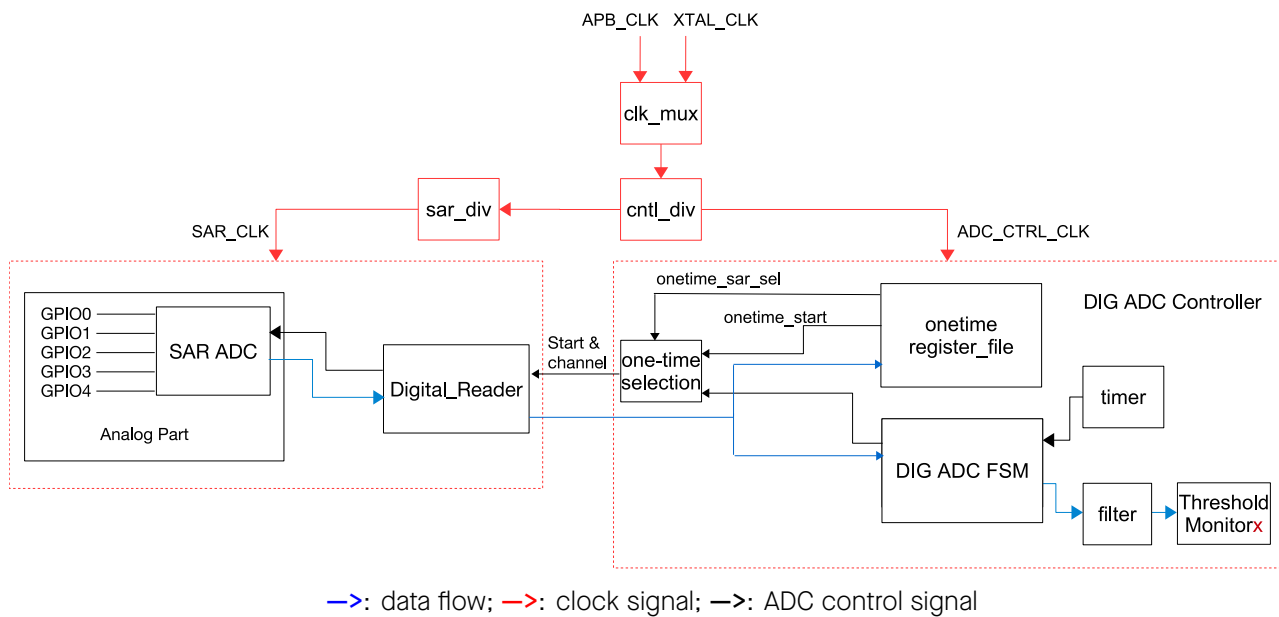

Figure 23.2-1. SAR ADC Function Overview
As shown in Figure 23.2-1, the SAR ADC module consists of the following components:
- the data is discarded after passing through the filter and the threshold monitor, see Figure 23.2-1),